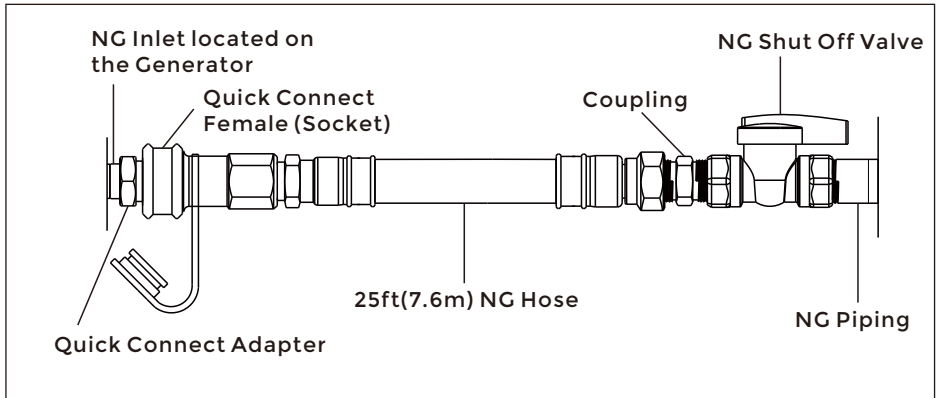

Figure 7
5. Connect the NG hose to both Generator and coupling.(Figure 7).